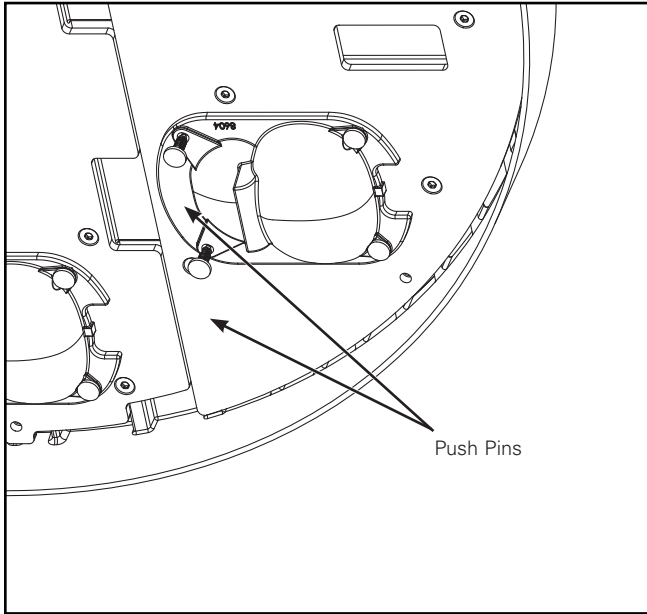

Figure 6.
1. Remove two plastic push pins on the back side of optic (Figure 6).